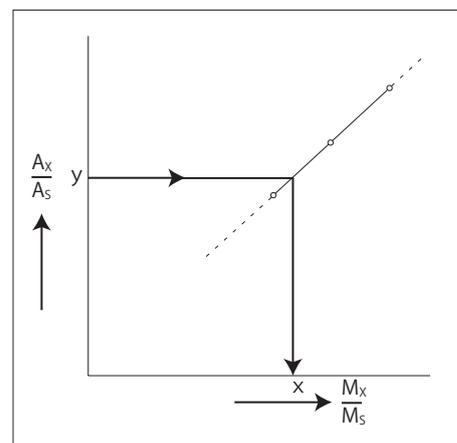

Figure 5. Calibration curve of internal standard method
3. Prepare a calibration curve (as shown on fig. 5) by plotting M_x/M_s vs. A_x/A_s ratios. M_x is the amount of the sample injected, and M_s is the amount of the standard. A_x is the peak area of the sample, and A_s is the peak area of the standard. The calibration curve is usually a straight line through the origin.